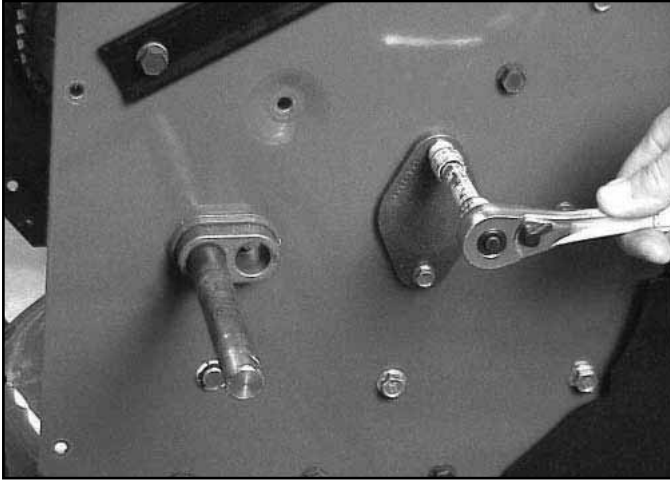

Fig 118 MVC-786.jpg
4. Remove 2 cap screws securing the bearing retainers that hold the hex shaft to each side of the traction assembly and remove both bearing retainers (Fig. 118).